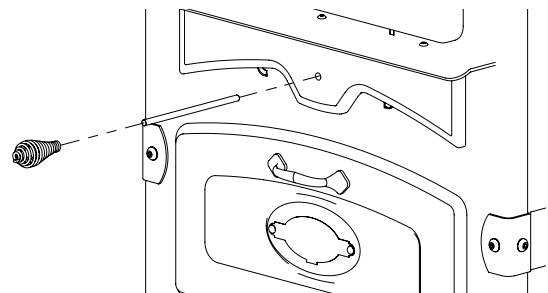

Figure 6: Ash Shuttle Rod Assembly
- Place threaded end of firepot cleaning rod through decorative casting and screw into fire pot. See figure 6.